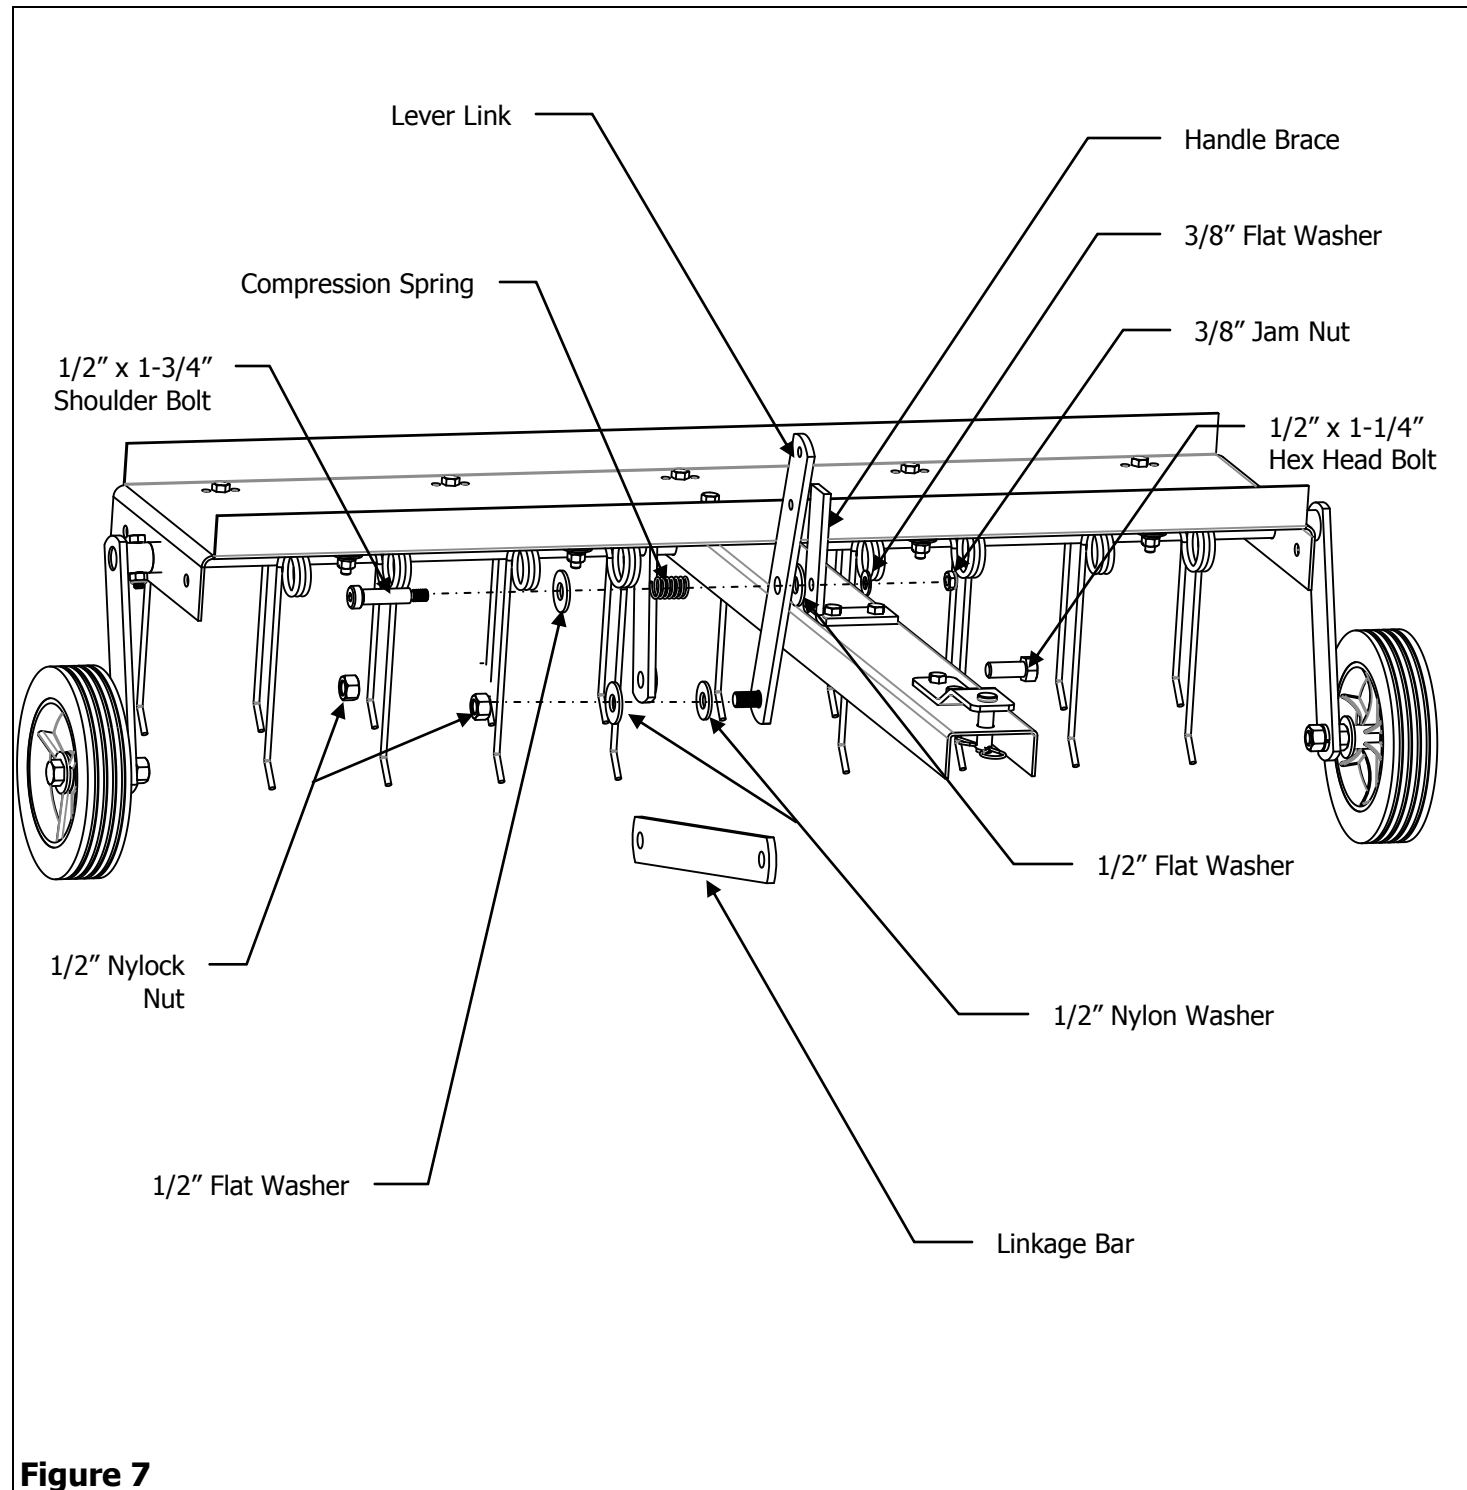

Figure 7
7. Place the 1/2" Nylon Washer onto the threaded stud on the Lever Link, insert the stud into one of the holes of the Linkage Bar, and secure with a 1/2" Nylock Nut (Tighten all the way until snug then back off 1/2 a turn). Insert 1/2" x 1-1/2" Hex Head Bolt into the Axle Link, place a 1/2" Nylon Washer on to the bolt, insert the bolt into the rear hole of the Linkage Bar, secure a 1/2" Nylock Nut. Insert the 1/2" x 1-3/4" Shoulder Bolt into a 1/2" Flat Washer, the Compression Spring, another 1/2" Flat Washer. Insert the bolt into the larger center hole of the Lever Link, followed by a 1/2" Flat Washer. Insert the bolt into the one hole on the vertical portion of the Handle Brace, and secure with a 3/8" Jam Nut. See Figure 7.